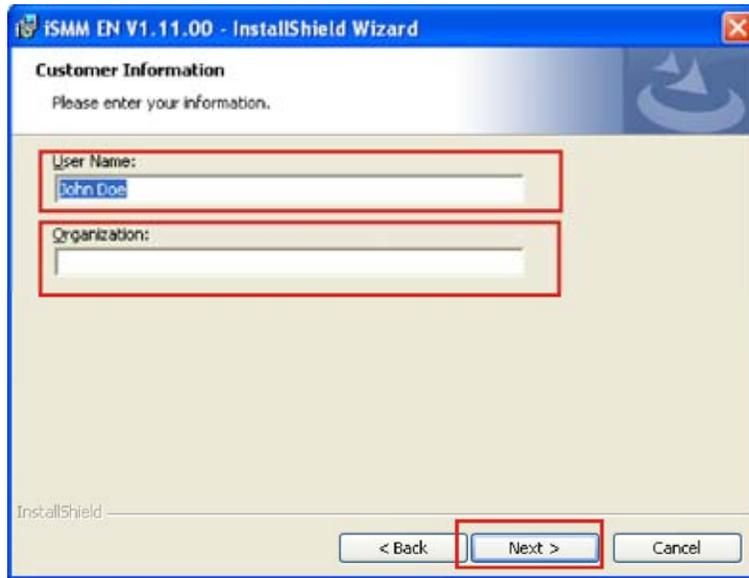

Figure 6-33: iSM Customer Information
Step 12: The **Customer Information** screen appears.(Figure 6-33)
Step 13: Fill in the “User Name” and “Organization” fields, which will be automatically filled with the settings for the current user.(Figure 6-33)
Step 14: Click **Next** to continue.(Figure 6-33)